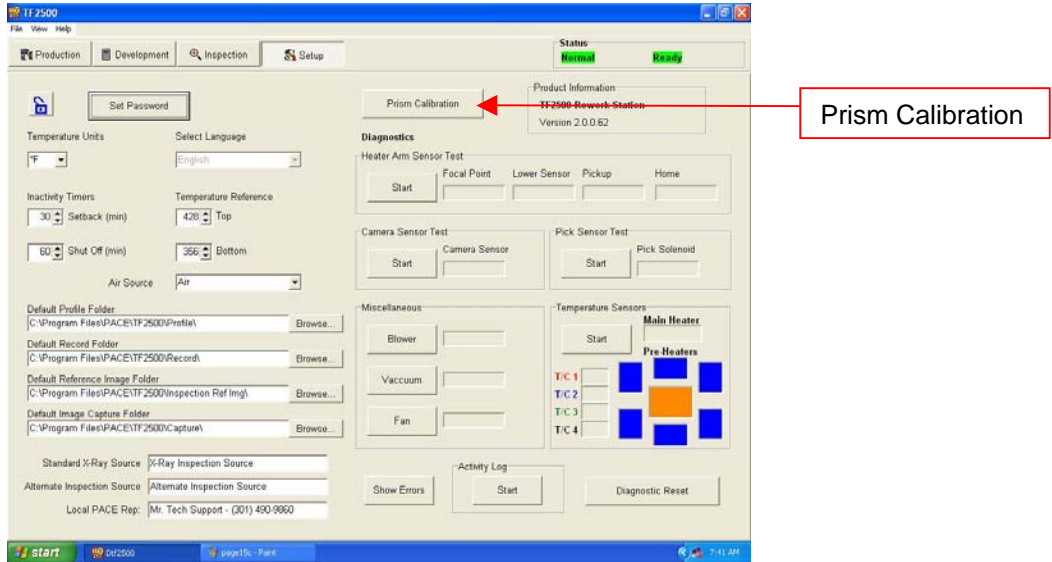

Figure 9
- i. Select setup screen. (Figure 9)